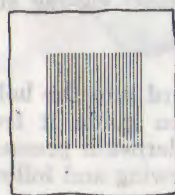

Fig. 51
- Move fabric forward and backward until hole is filled with parallel lines of stitches (Fig. 51),